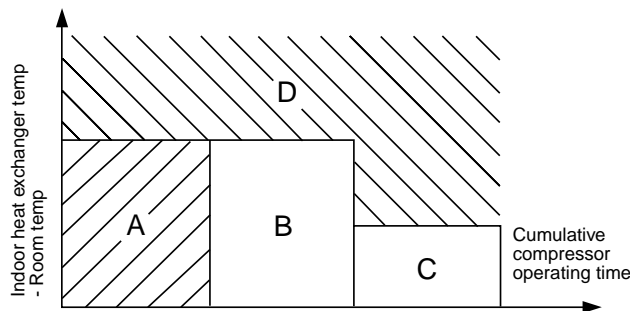

Fig. 7-6-1 (Indoor fan speed : M)
- (1) When the cumulative compressor operating time is longer than 40 or 90 minutes and difference between the indoor heat exchanger temperature and the room temperature is less than the specified value. (This value is decided by the microprocessor.) (Control example is shown in Fig. 7-6-1. In case of B or C, the defrost operation starts.)
- (2) When the current limit control or the high temperature limit control is performed for total of 90 minutes.